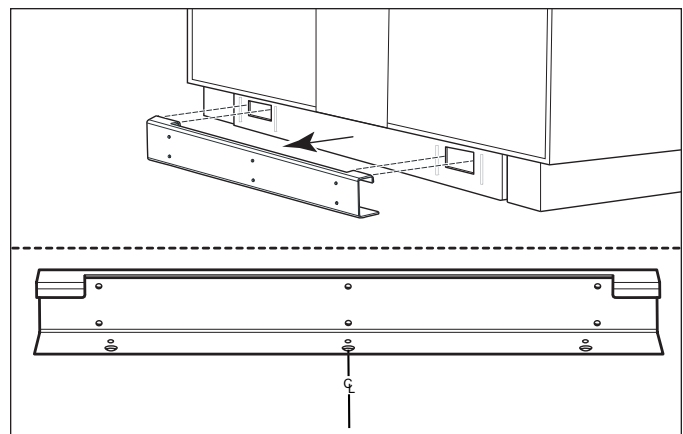

Figure 2-9. Center Line Reference
NOTE: Use the center line reference point on the anti-tip bracket to assure proper alignment and engagement of the product to the anti-tip bracket. (See Figure 2-9)
2. Drill 6 pilot holes 3/16" (5 mm) diameter maximum for mounting anti-tip bracket to the floor. (See Figure 2-9)
NOTE: For concrete floors use three 3/8 X 3-3/4" (10 mm x 95 mm) concrete wedge anchors to secure anti-tip bracket to floor. Use six #12 x 2-1/2" (64 mm) wood screws, and six 1/4" (6 mm) flat washers to secure anti-tip bracket to wall. (See Figure 2-9)